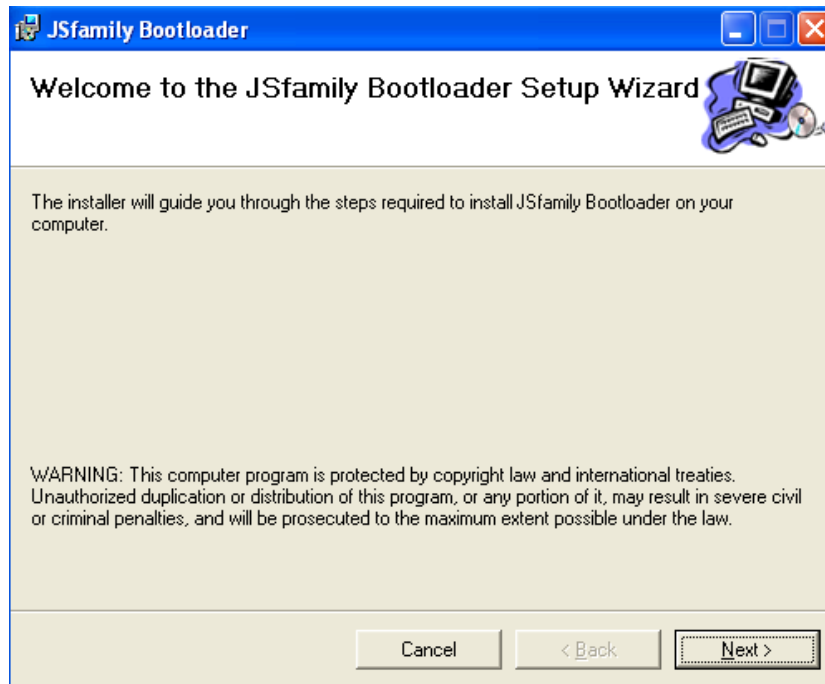
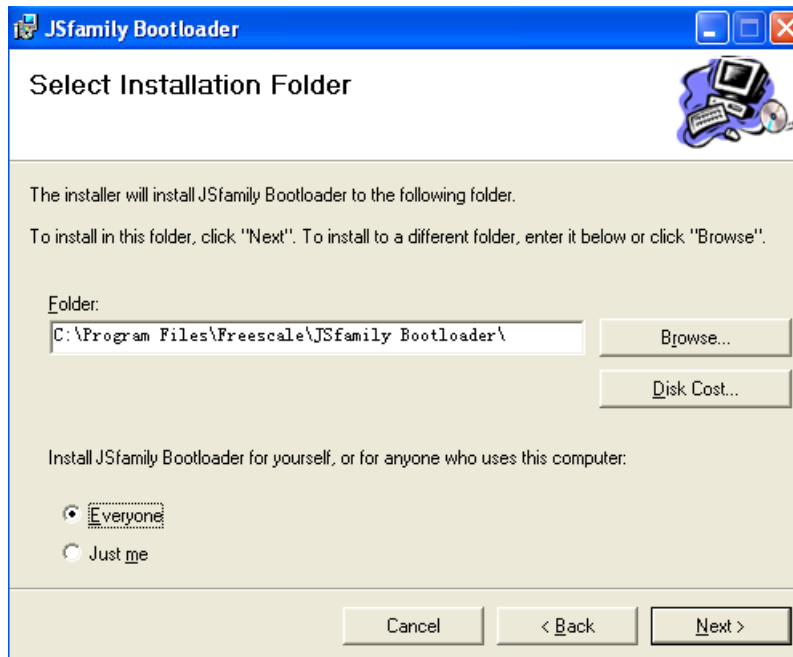

Figure 2. JS Family Bootloader Installation Window
Figure 3. Change the Installation Path
The installation window in Figure 2 appears.
2. Click the Next button in this window (Figure 2). Users can set the destination folder by clicking the Browse button in the window shown in Figure 3.
3. Click the Next button in the same window (Figure 3) and the License Agreement page is displayed. To continue with the installation select I Agree.